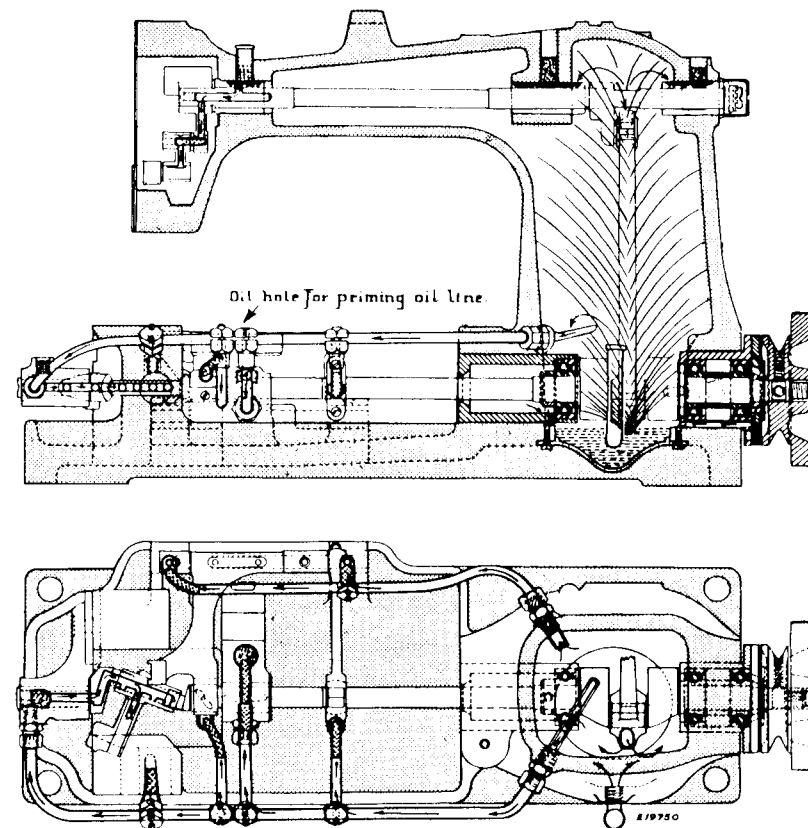

Fig. 10. Diagrams Showing Wicks and Bearings Oiled by Automatic Splash, also Bearings Oiled by Gravity Through Tubes on Outside of Machine
The machine has an automatic oiling system with a central reservoir from which, by splash and through tubing, all principal bearings are lubricated. See Fig. 10, page 7.
**Automatic Oiling System:**—An agitator on the lower end of the connecting rod contacts the oil in the central reservoir, at each revolution of the main shaft, lubricating various bearings **inside** the arm by splash. Pipes and wicks distribute oil to the principal bearings **outside** the arm. See large diagrams, **Fig. 10, page 7**, showing distribution of oil.